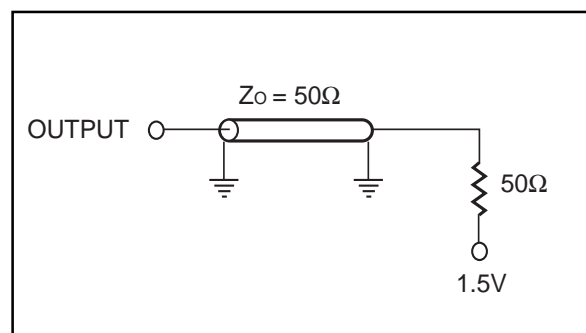

Figure 1
Output Load	See Figures 1 and 2
1. Test conditions assume signal transition times of 2 ns or less, timing reference levels of 1.5V, input pulse levels of 0 to 3.0V and output loading specified in Figure 1.